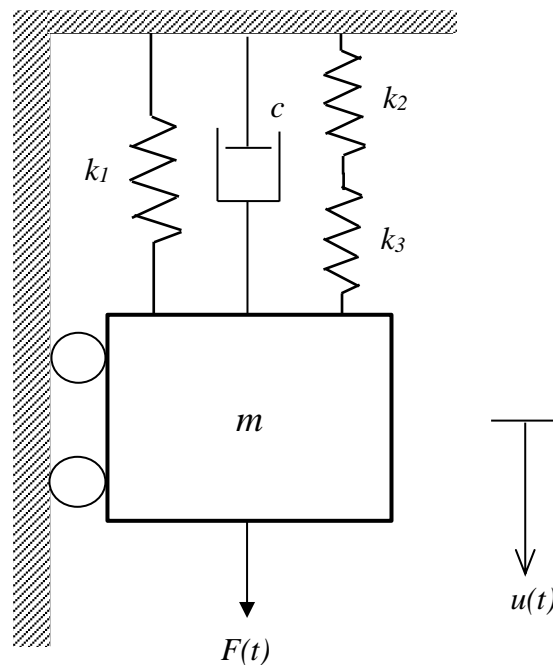

Figure 1
- (b). Formulate the equation of motion for a single degree of freedom system as shown in **Figure 1**. The mass m is connected to a viscous damper with the damping coefficient of c and three springs with spring constants of k_1 , k_2 and k_3 .
- (c). If the system as shown in **Figure 1** is set into free vibration with an initial displacement of 30 mm and initial velocity of 4 cm/s, $m = 150$ kg, damping coefficient, $c = 20$ N.s/m, $k_1 = 350$ N/m, $k_2 = 100$ N/m and $k_3 = 250$ N/m, determine: